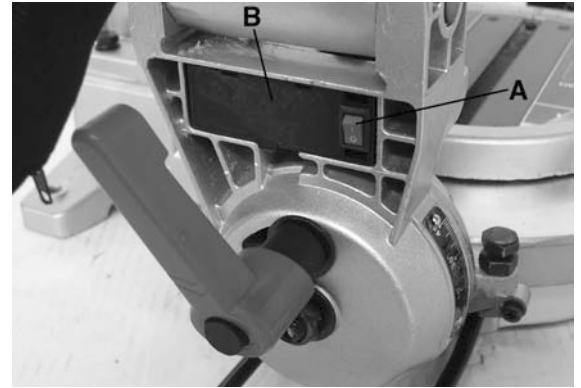

FIGURE 15
3. Before clamping the workpiece in position using the vertical vise, turn on the laser guide system using the laser switch (A) Fig.15 and align the line of cut on the workpiece with the laser guide.
1. Open the laser battery cover (B) Fig.15.